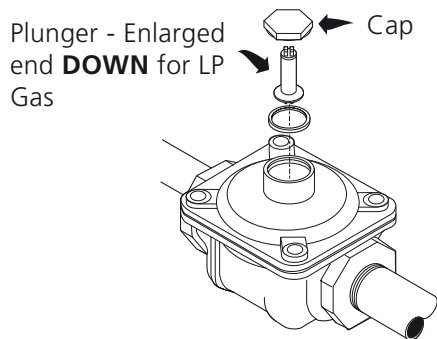

Figure 9
1. Convert the Pressure Regulator from Natural Gas to LP Gas (see figure 9)